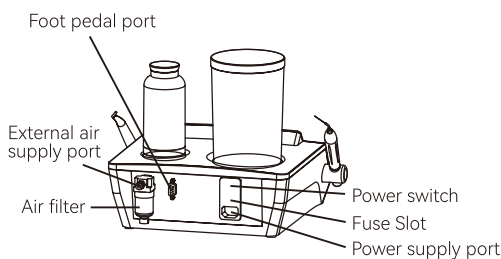

Figure 2 Back view
- 2.6.6 Connect the power cord with the power port on the back of the main unit, and then plug in the 220VAC power, as shown in Figure 2.